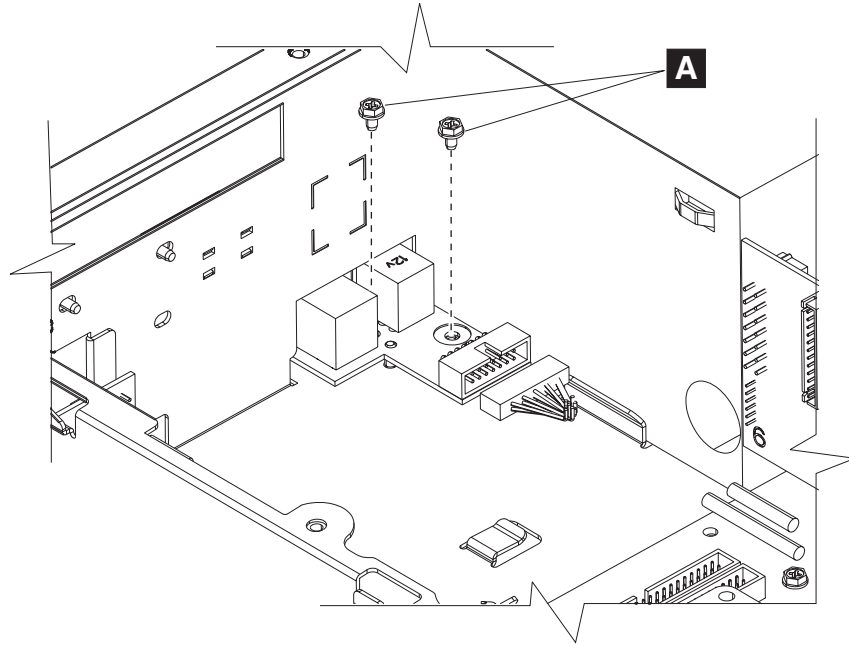

Figure 52. Removing the front USB card
5. Remove the two screws (**A** in Figure 52) holding the USB card to the system unit.